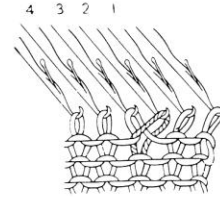

Fig.52-2
- With the single eye transfer tool, pick up a loop from the next stitch one row below and place it in the empty third needle hook. (Fig.52-2)